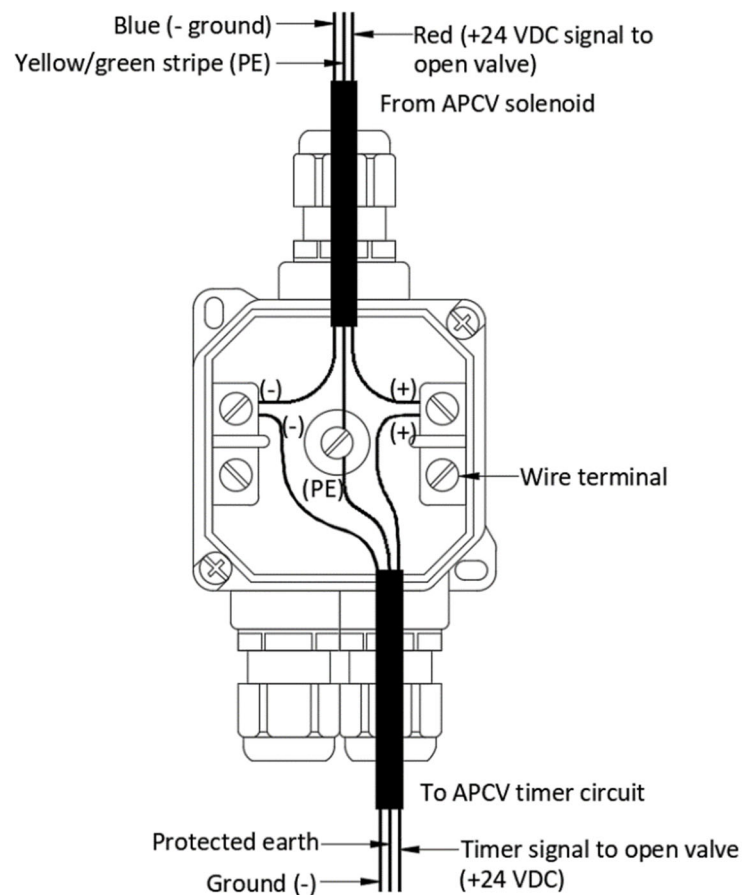

Figure 1 – APCV Field Junction Box Wiring
- Step 15. Route the APCV solenoid wiring into the box using the cable gland provided (Figure 1). Use caution not to cause damage the conductor insulation due to rubbing it against sharp-edged or moving metal parts.
- Step 16. Connect the solenoid wire leads to the provided terminals ensuring that the conductor insulation reaches the clamping units (Figure 1). Do not damage the conductor (nicking) when stripping it.
Step 17. Route the timer circuit wiring for APCV on and off control into the box using the cable gland provided (Figure 1). Use caution not to cause damage the conductor insulation due to rubbing it against sharp-edged or moving metal parts.
Step 18. Connect the timer circuit wiring to the provided terminals, verifying correct polarity (Figure 1). Ensure that the conductor insulation reaches the clamping units. Do not damage the conductor (nicking) when stripping it.